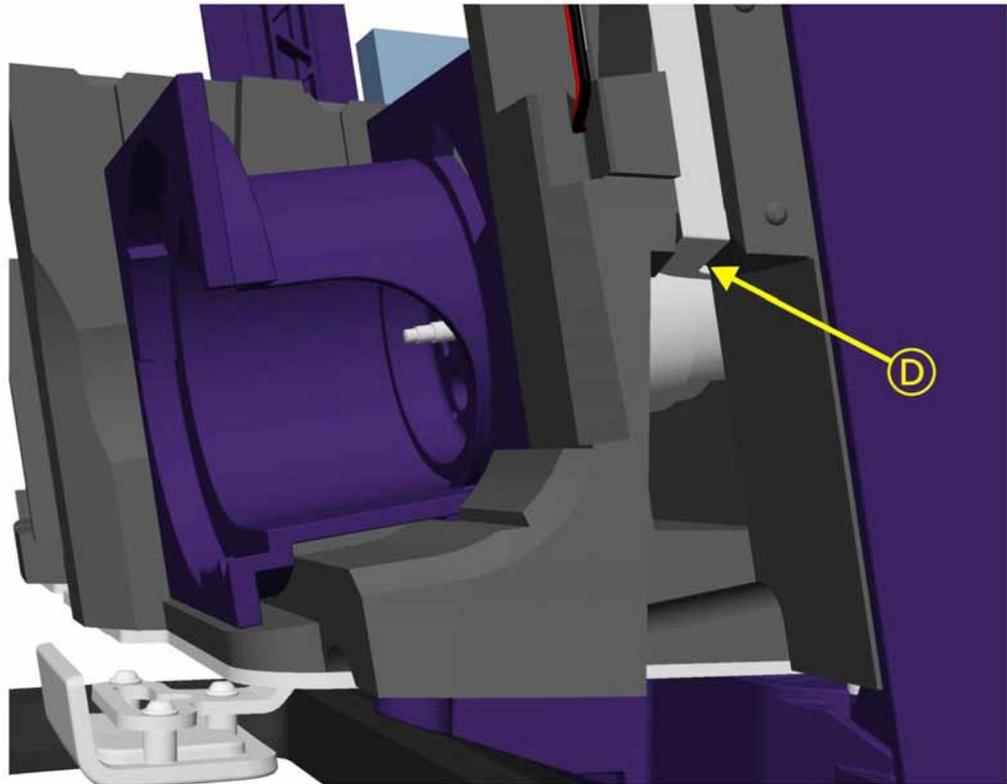

Figure 11-56. Expiratory Valve Assembly, Step 2
- Figure 11-56, *Expiratory Valve Assembly, Step 2*, on page 11-63